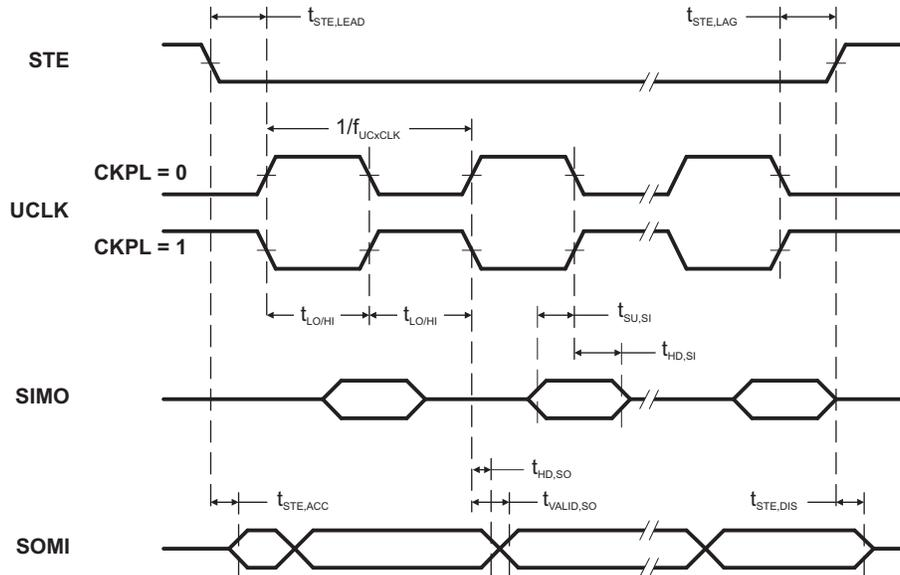
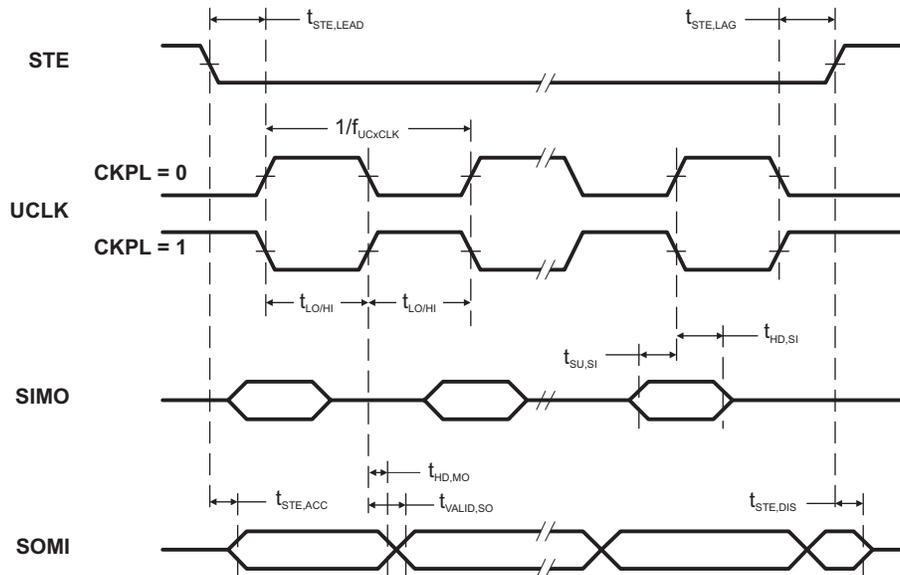

Figure 13. SPI Slave Mode, CKPH = 0
Figure 14. SPI Slave Mode, CKPH = 1
(see Note (1), Figure 13 and Figure 14)
(2) Specifies the time to drive the next valid data to the SOMI output after the output changing UCLK clock edge. See the timing diagrams in Figure 13 and Figure 14.
(3) Specifies how long data on the SOMI output is valid after the output changing UCLK clock edge. See the timing diagrams in Figure 13 and Figure 14.